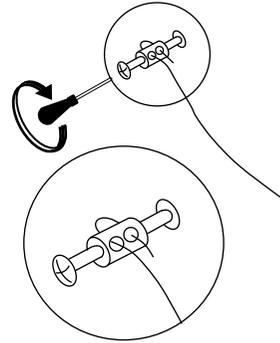

Fig 3
1. Thread the string through the holes and tighten screw (Fig 3).